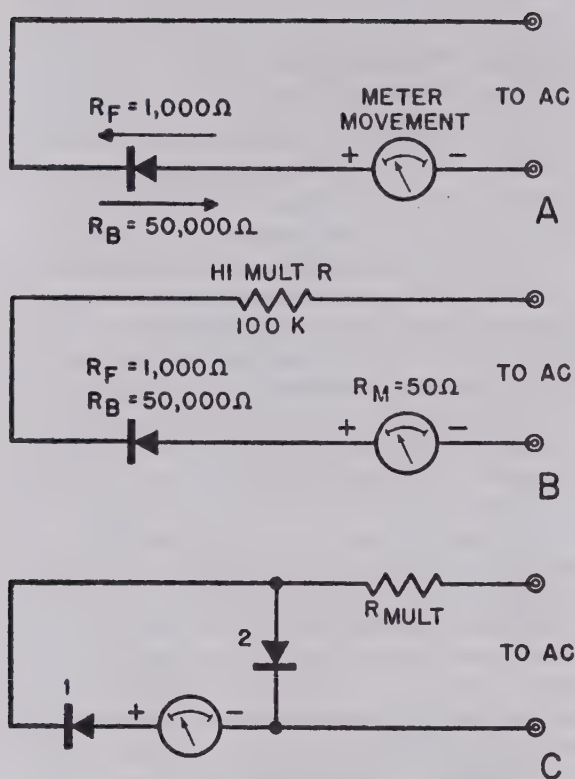

Figure 26. Double half-wave rectifier circuit cuts out loss of rectifier efficiency.
- (2) For example, assume that a meter movement with 50 ohms resistance is placed in series with a rectifier that has a forward resistance of 1,000 ohms. Within the meter, there is now a total of 1,050 ohms of resistance in one direction and 50,050 ohms in the other, since the back resistance is 50 times the forward resistance. Current for all practical purposes flows in one direction only through the meter (A, fig. 26). Assume that the voltage being measured is large and it is necessary to place 100,000 ohms of multiplier resistance in series with the meter and the rectifier, as shown in B. On one alternation, the total resistance to current flow comprises the multiplier resistance, R , or 100,000 ohms, the forward resistance of the rectifier, R_f , or 1,000 ohms, and the meter-movement resistance, R_m , or 50 ohms. The total resistance is then R plus R_f plus R_m , or 101,050 ohms. On the next alternation, the rectifier does not conduct and the total resistance is 150,050 ohms, since the rectifier resistance, R_b , is now 50,000 ohms (B, fig. 26).
- (3) There is little difference in the amount of resistance on each alternation—101,050 ohms in the forward direction compared with 151,050 ohms in the opposite direction. There is almost as much current flowing through the meter movement in one direction as in the other. Consequently, there is only a small deflection of the meter based on the difference between the currents flowing during the two alternations.
- (4) To overcome the inefficient rectification caused by putting a large multiplier resistance in series with the rectifier, a double half-wave circuit generally is used (C, fig. 26). On one alternation, half-wave rectification occurs and current flows through the meter movement and rectifier 1; on the other alternation, current flows through rectifier 2 and bypasses the meter movement and rectifier 1.